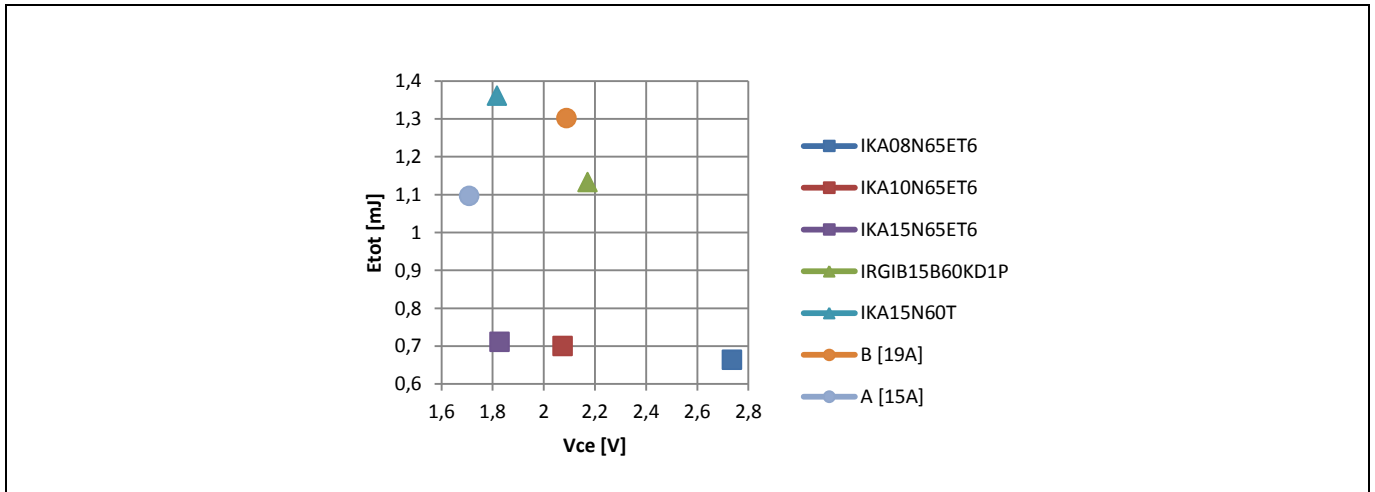

Figure 5 Trade-off chart at $T_C=150^\circ C$, $V_{GE}=15 V$, $V_{DC}=400 V$, $R_G=500\Omega$ and $I_C=15 A$
- Figure 5: driving devices with the same R_G